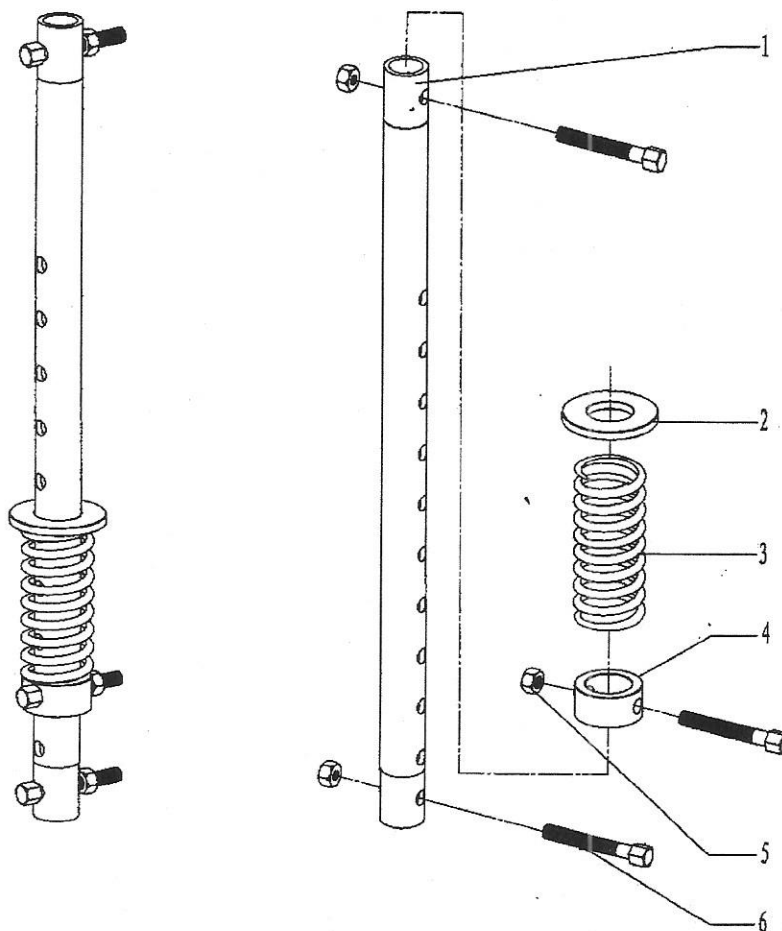

Fig. 26
23. Assembly of front guide rod (Fig26, Table 23)